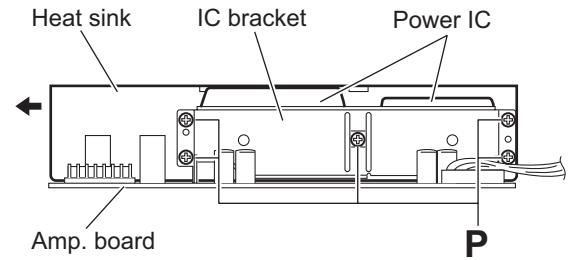

Fig.13
(See Figs. 13 and 14)
- (1) From the front side of the amp. board, remove the five screws **P** attaching the IC bracket and take out the IC bracket. (See Fig.13)
- (3) Move the heat sink in the direction of the arrow to release the three claws **d** and remove the heat sink. (See Figs.13 and 14)